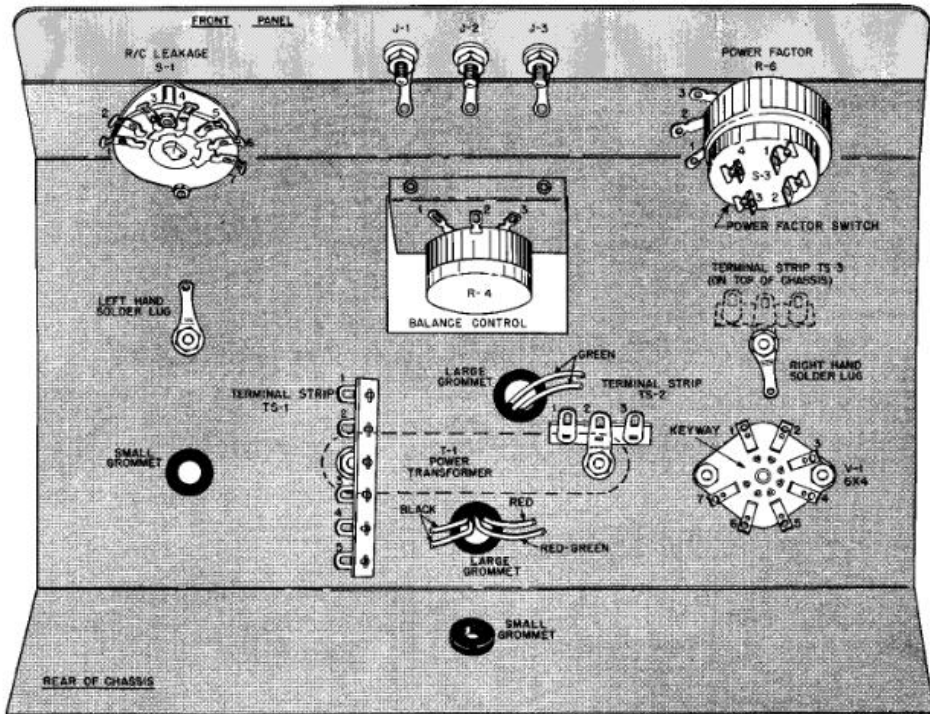
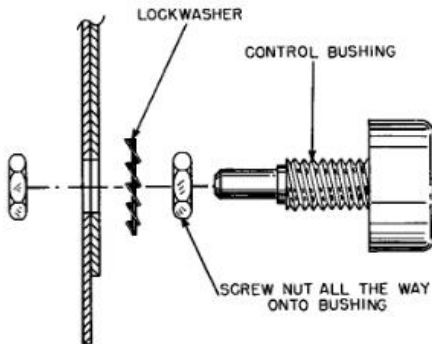
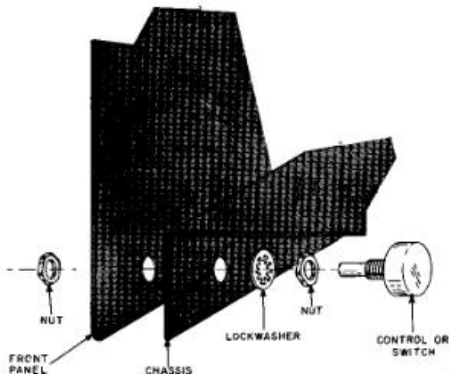

FIGURE 1. MOUNTING THE PARTS ON THE CHASSIS
FIGURE 2. HOW TO MOUNT A CONTROL
FIGURE 3. HOW TO MOUNT THE FRONT PANEL WITH A CONTROL
## REFER TO FIGURE 1.
- (X) Mount the 7-pin wafer socket inside the chassis over the hole near the right rear edge of the chassis with two machine screws and nuts. The keyway (the wide open space between two of the socket pins) must be toward the left and front of the chassis.
- (X) In front of the 7-pin socket, mount the other three-terminal strip (TS-3) on the outside of the chassis, shown in broken lines in Figure 1, and a solder lug on the inside of the chassis, with a machine screw and nut. This solder lug will be referred to as the Right Hand Solder Lug.
- (X) Mount R-4, the 10K ohm potentiometer without a switch, on the bracket that is welded to the top of the chassis so its terminals point toward the rectangular hole in the chassis. Figure 2 shows how to mount a control using two nuts and a lockwasher
- (X) Mount the front panel to the chassis with R-6, the 800 ohm potentiometer with a switch. See Figure 3. The potentiometer terminals must be toward the center of the chassis, as shown in Figure 1.
- (X) Mount S-1, the single-wafer switch, in the left hand hole in the front of the chassis. Position the switch as shown in Figure 1. See Figure 3.
- (X) Mount the double-wafer switch (S-2) in the small hole near the top of the front panel. See Figure 2. The open space on the rear wafer must be toward R-4, as shown in Figure 1.